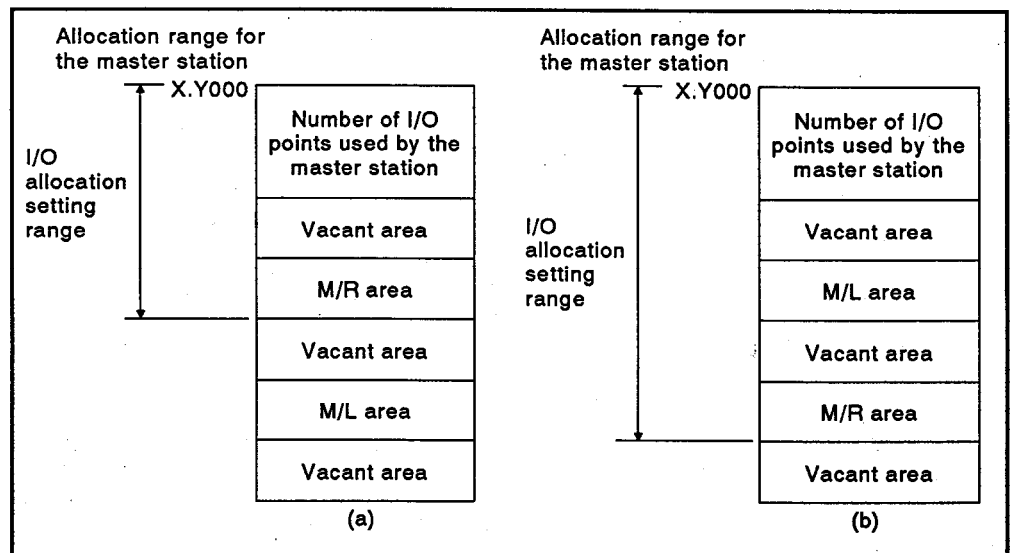

Fig. 7.43 I/O Allocation Setting Range
- (a) If the M/L area is allocated after the M/R area, it is not necessary to allocate inputs and outputs to the local station setting range (see Fig. 7.43(a)).
- (b) If the M/L area is allocated after the M/R area, it is necessary to allocate inputs and outputs to the local station setting range (see Fig. 7.43(b)).
When allocating inputs and outputs, the device range is set with the assumption that the input modules or output modules are loaded or that vacant slots exist corresponding to the ranges marked by asterisks in both items of Fig. 7.43 and in the "M/L area" in Item b of Fig. 7.43.